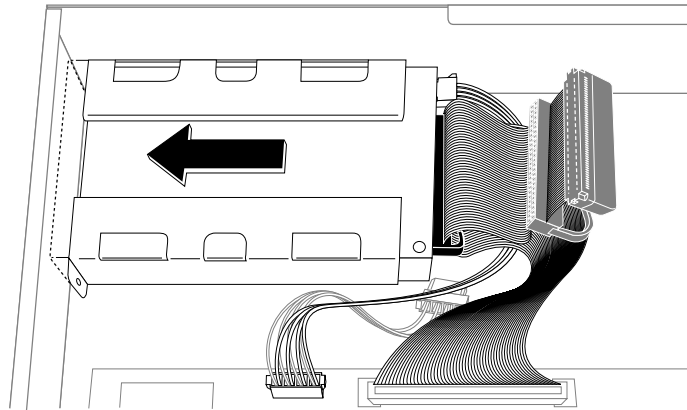

Figure 8-35 Installing the Replacement System Disk Drive
11. Install the replacement system drive, as shown in Figure 8-35.